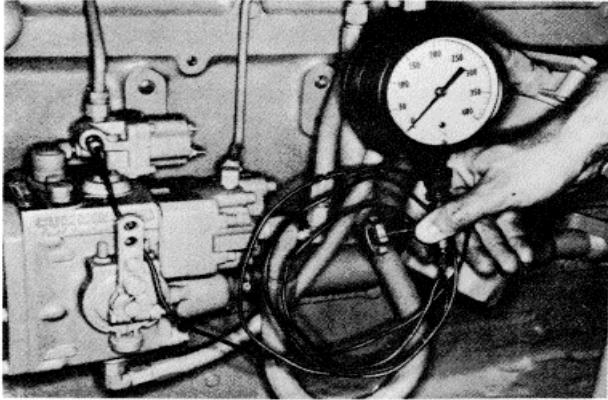

Fig. 2-64, (N11966) Checking fuel manifold pressure with ST-435
7. Check maximum fuel manifold pressure with ST-435. Fig. 2-64. Remove 1/8 inch pipe plug from side of fuel shut-off valve on top of fuel pump. Connect the gauge line in pipe plug hole.